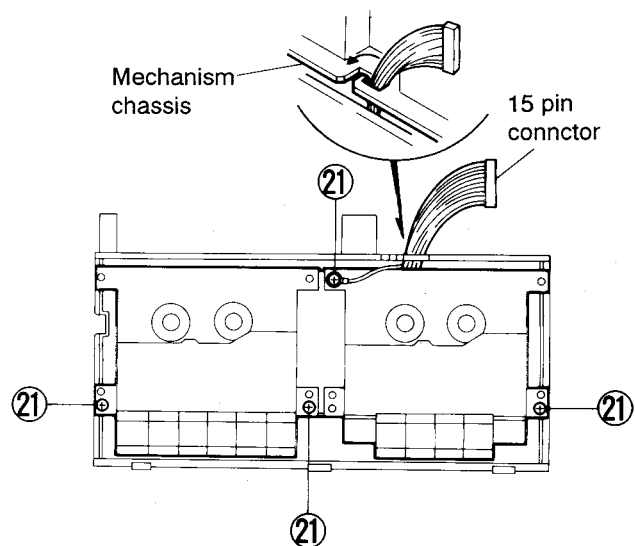

Fig. 5-22
■ How to Remove the Cassette Mechanism (Refer to Figs. 5-22 and 5-23)
6. Remove the four screws (21) retaining the cassette mechanism.